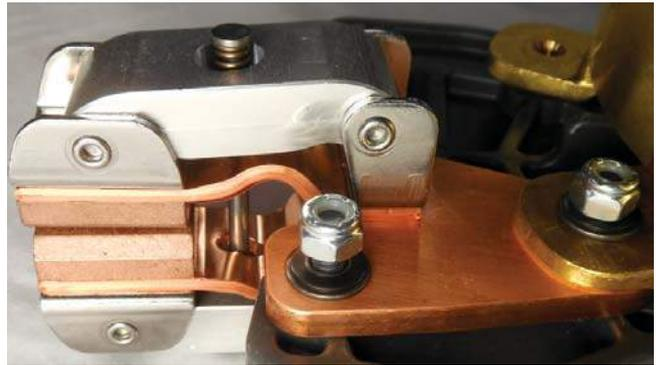

**Figure 74. Movable contact removal from contact panel and collector rings**
10. Remove the two screws, nuts, washers, and Belleville washers that secure each contact to the movable contact panel using a 5/32" Allen wrench and a 7/16" socket. See Figure 74 and Figure 75.